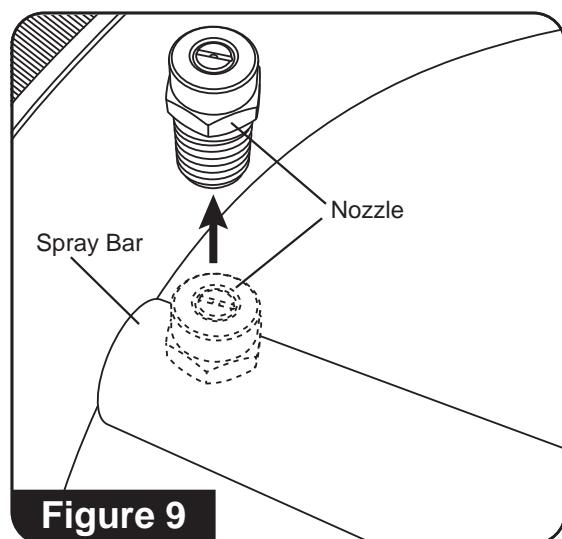

Figure 9
3. Using a 14mm wrench (not provided) remove both nozzles from the spray bar. (**See Figure 9**)